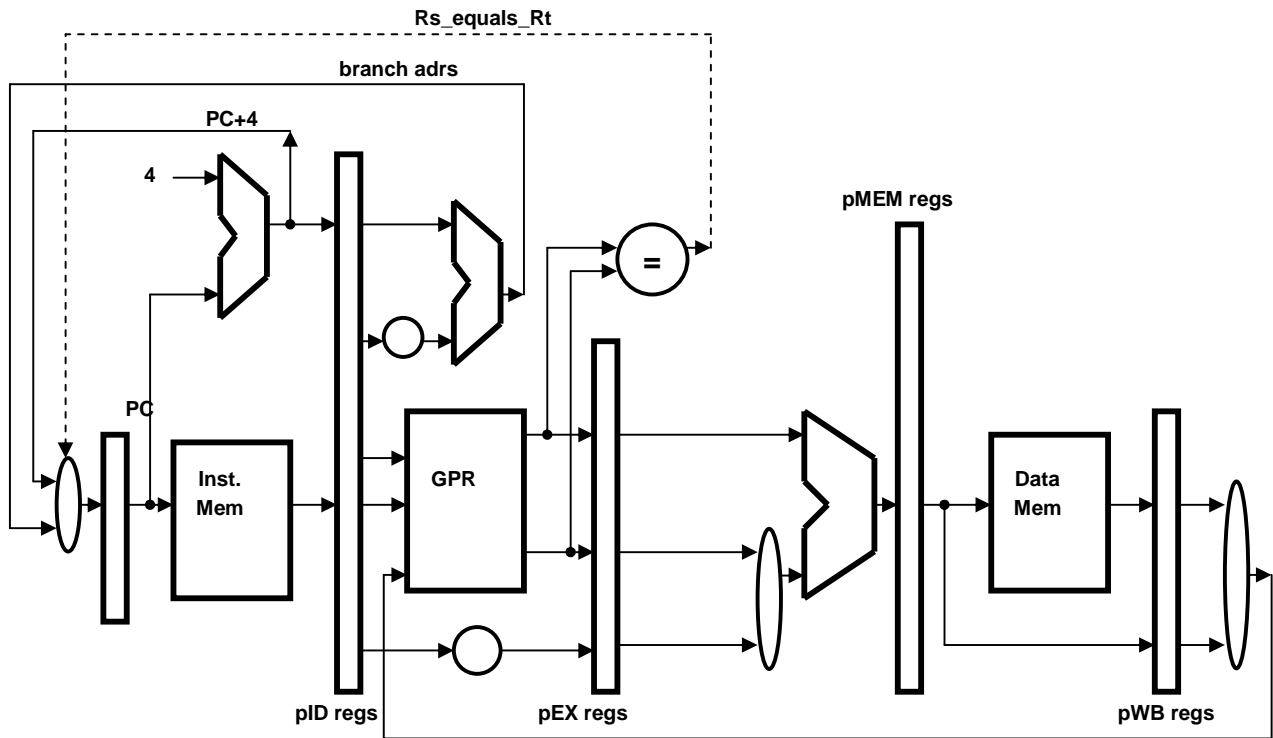
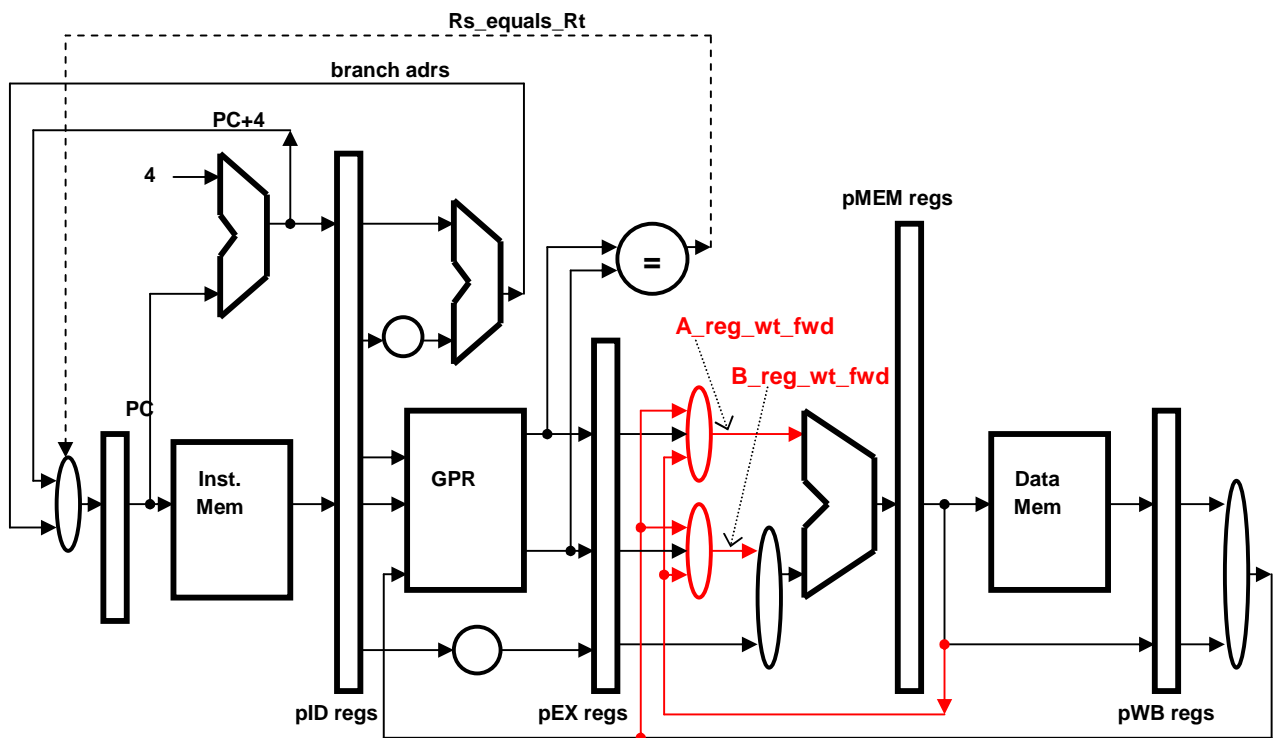
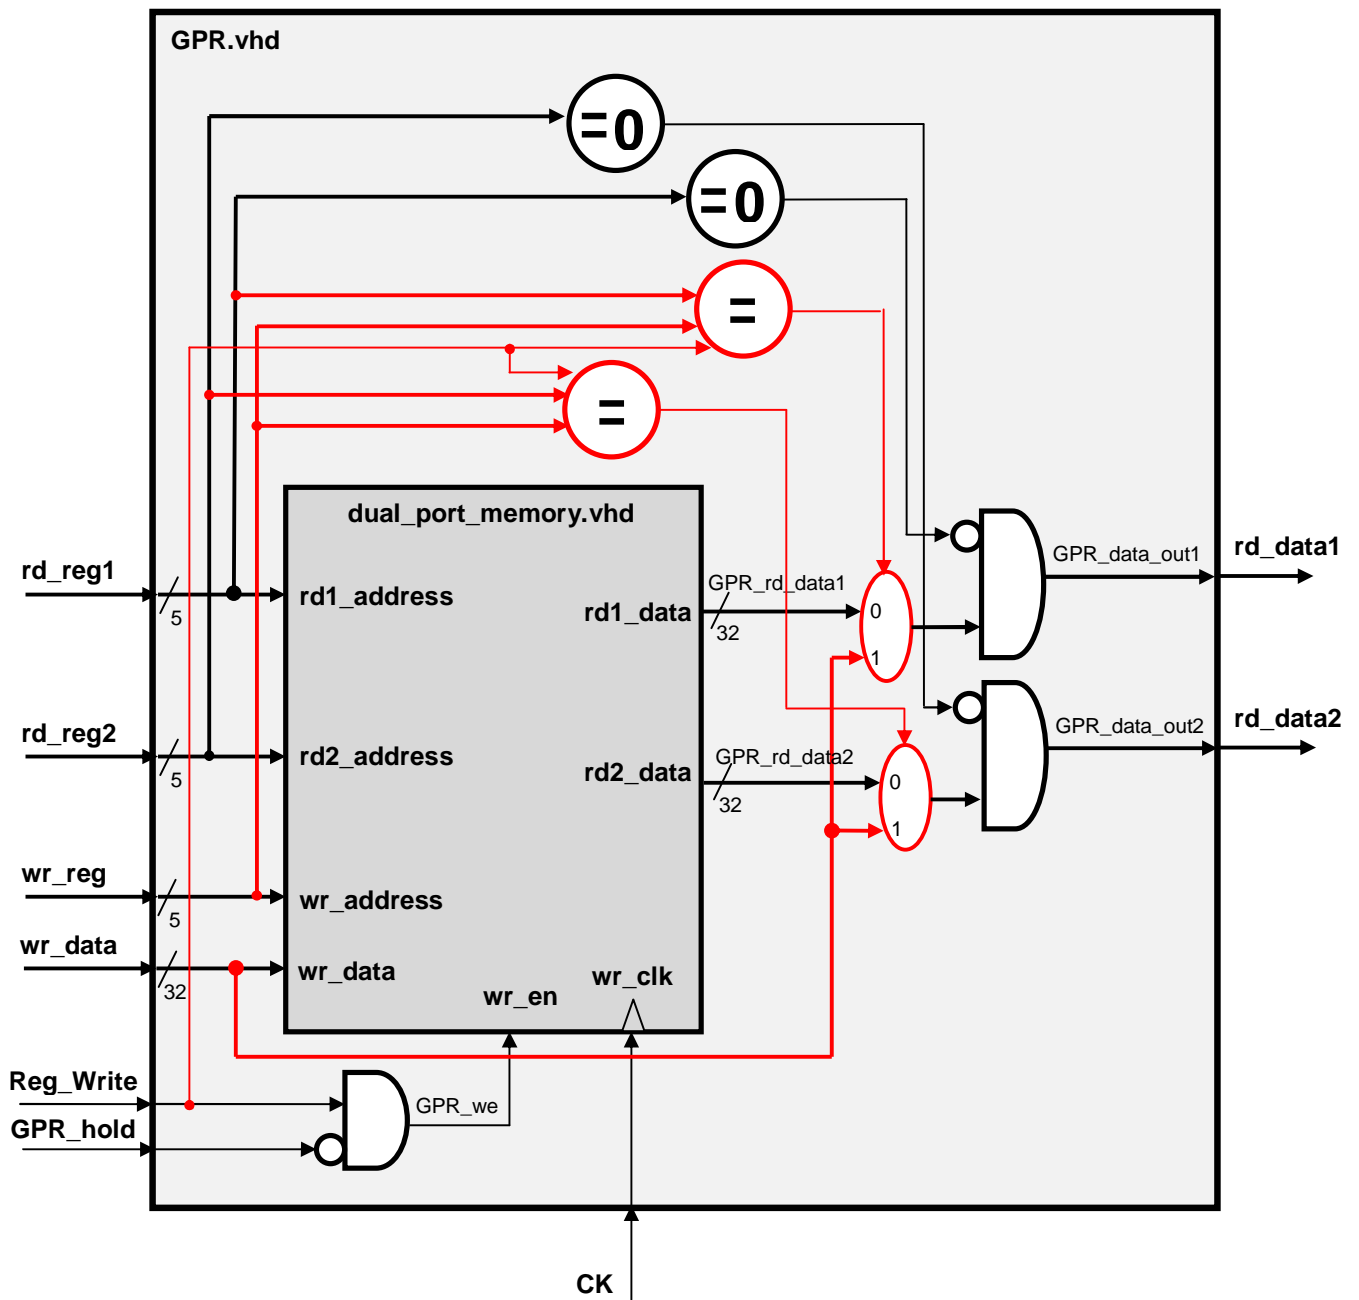

Fig. 4 – MIPS data path (part) with no forwarding
Fig. 5 – MIPS Data Path with Data Forwarding
Fig. 6 – MIPS Data Path with Data Forwarding
In Fig. 4 and Fig. 5 below we see the MIPS data path without and with Data Forwarding. The changes are drawn in red. The connections shown in the MIPS data path in Fig. 5 support forwarding from previous instruction (case I) and from instruction before the previous one (case II). The forwarding through “transparent” GPR File (case III) is not shown in Fig. 5. It is described in Fig. 6 further below with the changes inside the GPR File also drawn in red.
- 1) No forwarding should be done if we read from register \$0 [see how it is handled in Fig. 6].